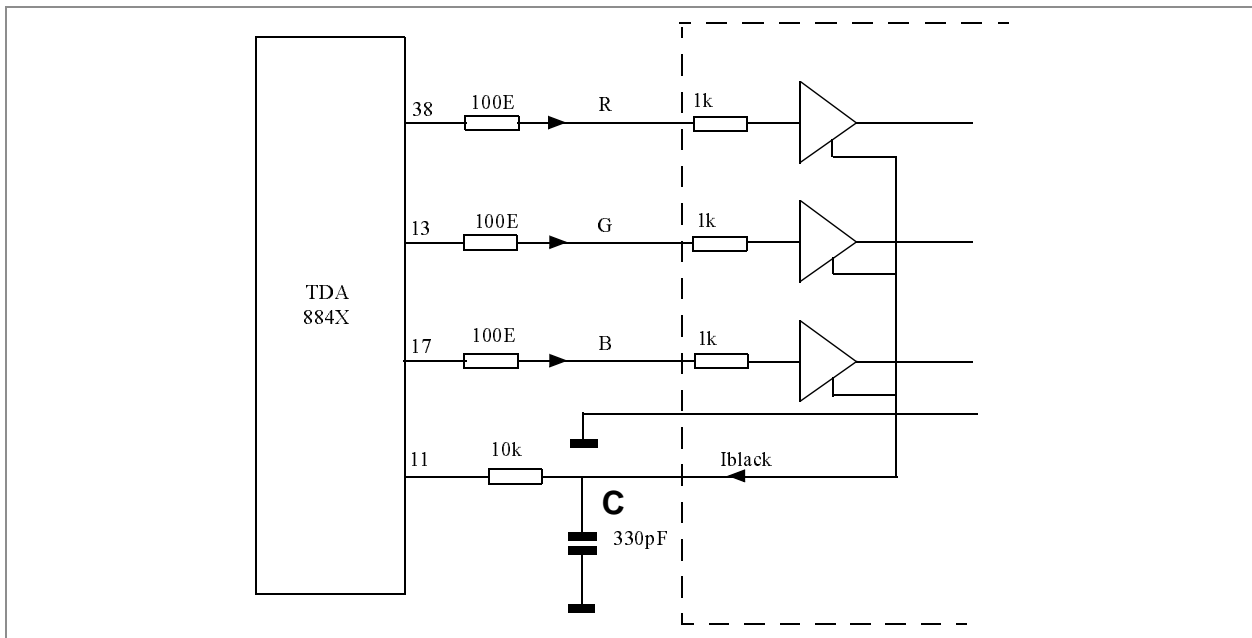

Fig.29 Black current feed-back.
- A small modification was introduced to improve the stability of the black current feed-back loop. There was a series resistor present of 1k from the current output of the video amplifiers to the black current input of the TDA884X. The resistor is increased to 10kΩ. Also a small capacitor C of 330pF is added between the “guard-ring” ground and black current signal coming from the video amplifier side, see Fig.29 . This modification reduces the bandwidth the black current feed-back loop. This is no problem, because the the reference pulses on the RGB outputs is present during the scan period of one line, while the feed-back current is measured on approximately 2/3 of the line.